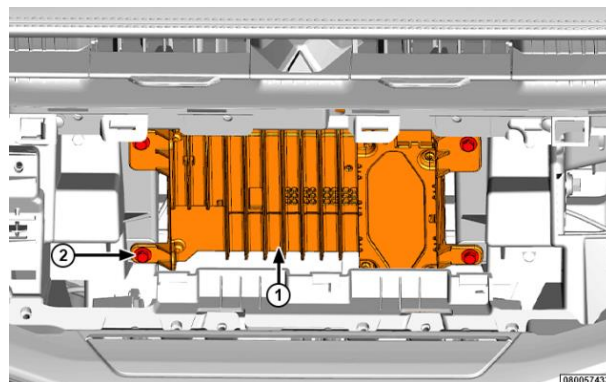

Figure 16 – Radio Fasteners
- 34. Remove the fasteners (2) from the radio (1) (Figure 16).